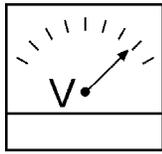

Figure 38. Voltmeter
4. The generator's AC-voltmeter (Figure 38) will display the generator's output in **VOLTS**. If the voltage is not within the specified tolerance.